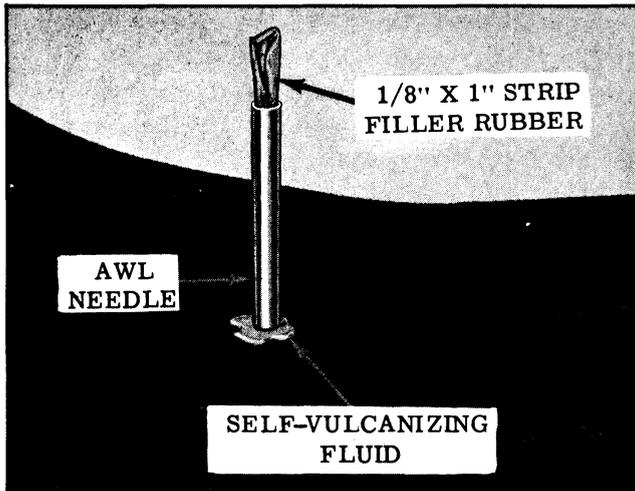

Fig. 4-15 Sealing Injury With Filler Rubber
- (b) Remove detachable handle from awl needle. Cut 1/8" by 1" strip of Filler Rubber, remove protective cover and insert into hole of awl needle with end of rubber strip extending beyond the needle. (See Fig. 4-15)